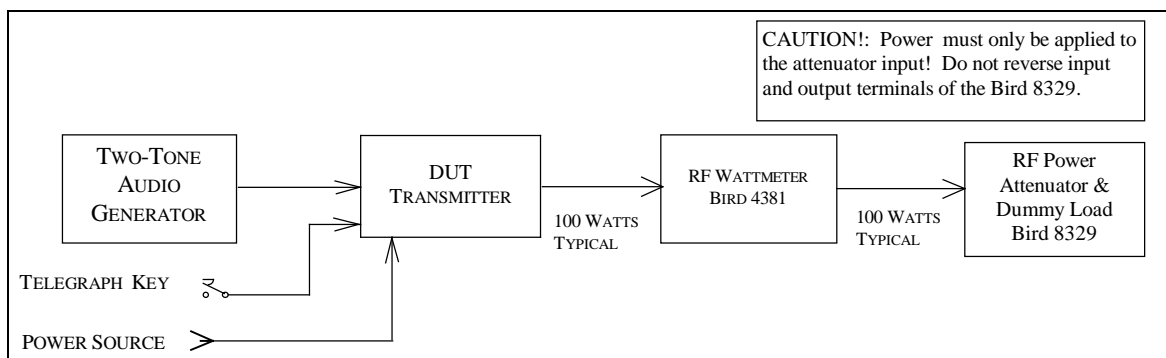

Fig. 4-2 — Transmit Frequency Range Test Hook-up
4.2.2 Test Hook-up (See Fig. 4-2)